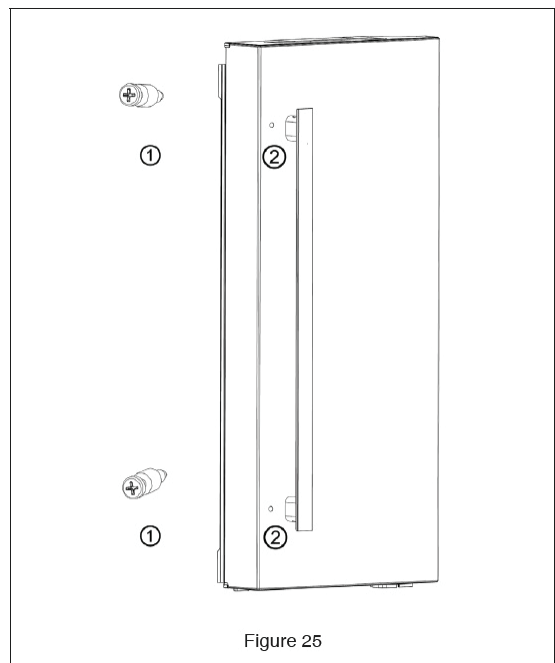

Figure 25
- 1 Take out bolt 1 from accessory bag, then use Phillips screwdriver to secure the bolt 1 into the bolt hole 2 of refrigerator doors. See Figure 25.